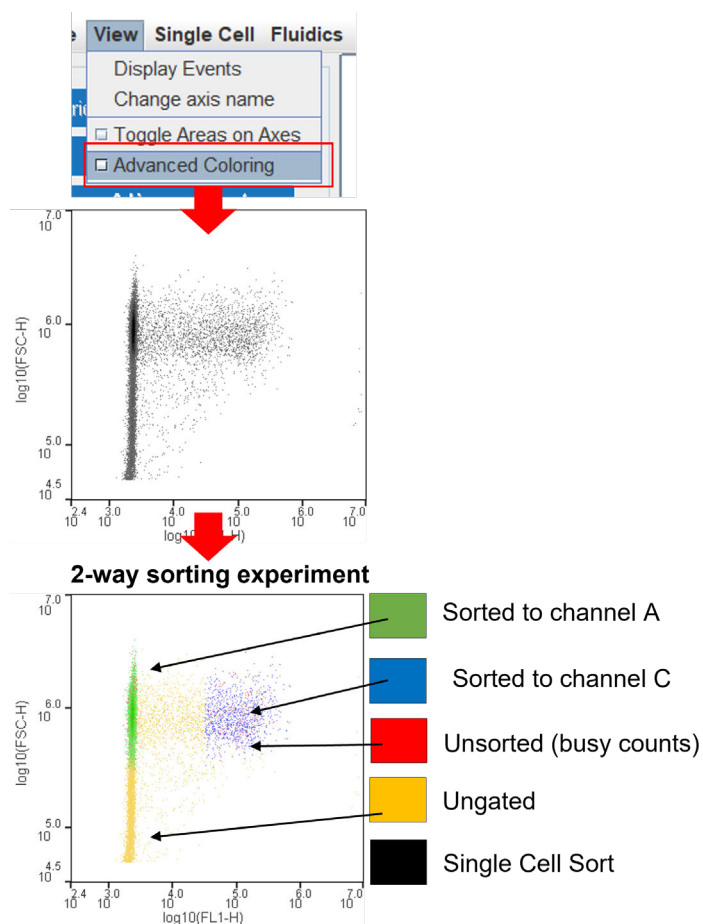

Figure 68. Post-sorting analysis with the Advanced Coloring Feature.
The Advanced Coloring Feature color-codes the populations in a plot from a file generated during a sorting experiment. It is designed to monitor trigger counts and highlight the cells that are not sorted due to a high event rate (Fig. 68). It indicates which cells are sorted to channel A or C in a 2-way experiment. It can also be used as a permanent record of the gates used for sorting if a template was not saved.
2. Different colors display events gated and sorted for a given experiment (Fig. 68).